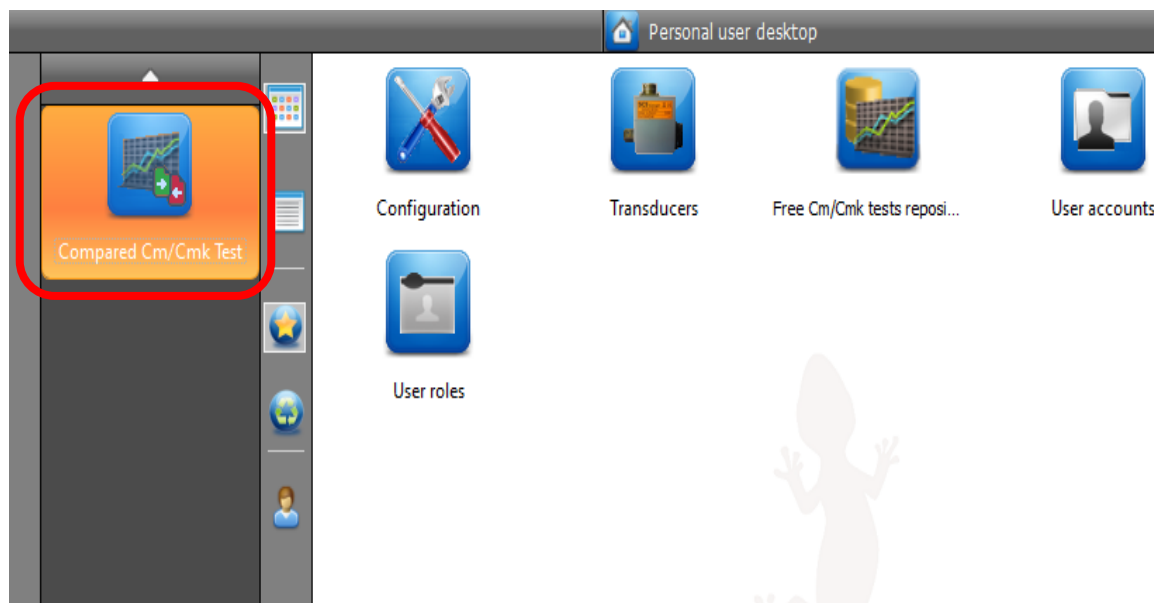
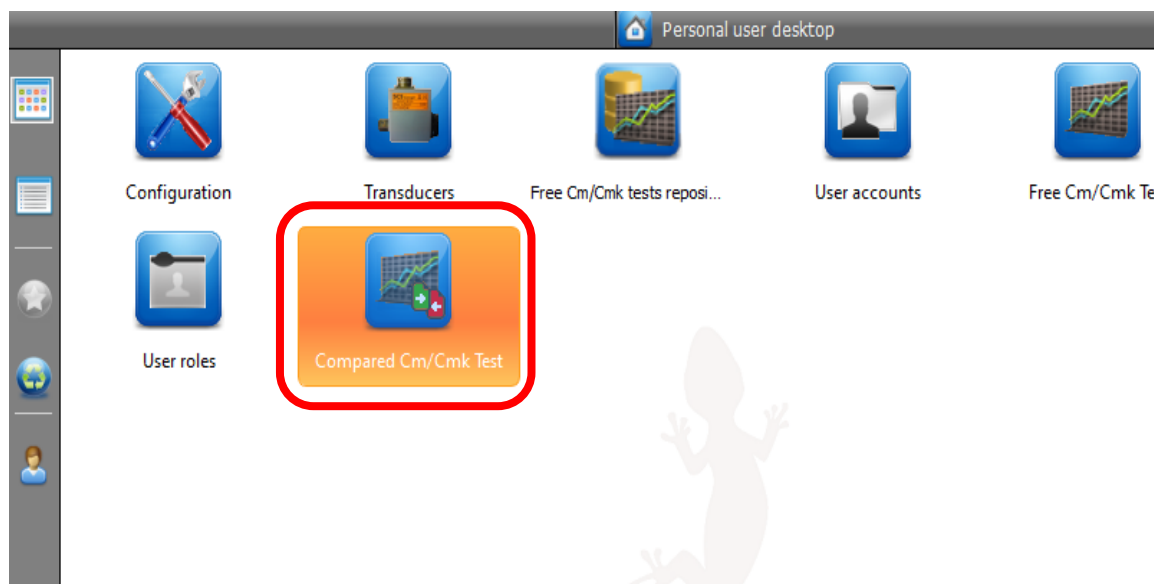

Figure 16
Figure 17
- select the Compared Cm/Cmk Test feature (See **Figure 16** and **Figure 17**).